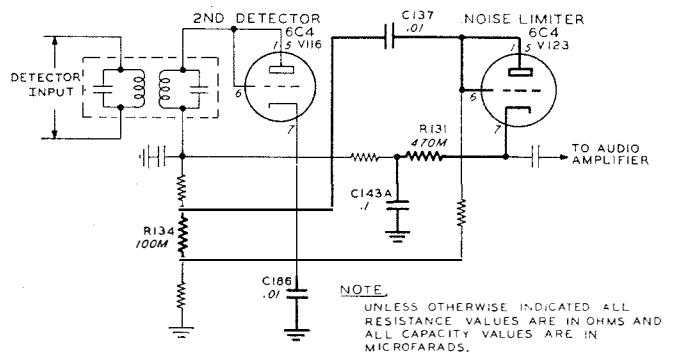

Figure 4-14B—Noise Limiter Circuit (AC Path)
The rectification of the RF side band voltage will produce an audio (AC) voltage across the second detector load resistors, R133 and R134. Part of this voltage will appear across C137 and R130, which are in series and connected in parallel with R134. The reactive impedance of the circuits, which are connected across the load resistors, causes the negative peaks of the audio (AC) voltage to be clipped at an amplitude corresponding to approximately 70 per cent of modulation. The positive audio (AC) peaks are not affected by the reactive impedance and therefore must be limited in amplitude by some other means to prevent the noise impulses from developing high positive peaks. The noise limiter tube functions for this purpose, limiting the peaks to 70 per cent of the original modulation. The cathode of the noise limiter tube is connected, for the AC voltage, through the cathode coupling resistor, R131, and capacitors C143A and C186 to the second detector cathode. The potential existing at the second detector cathode will be the algebraic sum of the DC positive potential developed by rectifying the unmodulated carrier voltage and the positive or negative AC superimposed potential developed by rectifying the side band voltages. As the negative AC peaks are clipped the resultant potential at this point can never become zero, although it may fall to a low positive value. Therefore, a positive potential will be impressed upon the cathode of the noise limiter tube which will increase in amplitude with an increase in the amplitude of the modulated side bands or with a noise pulse. The plate of the noise limiter tube receives a varying negative voltage due to the plate being connected through C137 to the junction of R133 and R134. See figure 4-14B.